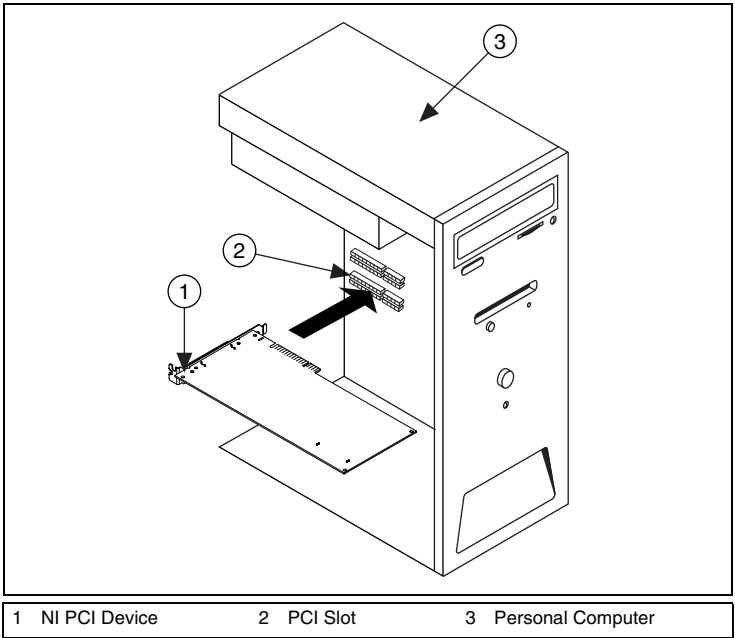

Figure 2. PCI Installation
4. Insert the device into an open PCI slot as shown in Figure 2